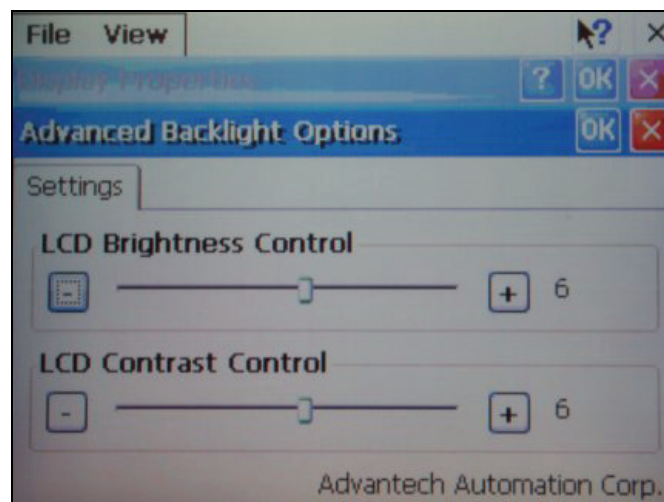

Figure 6-29
- Press the Advanced button. The window in Figure 6-29 will appear.